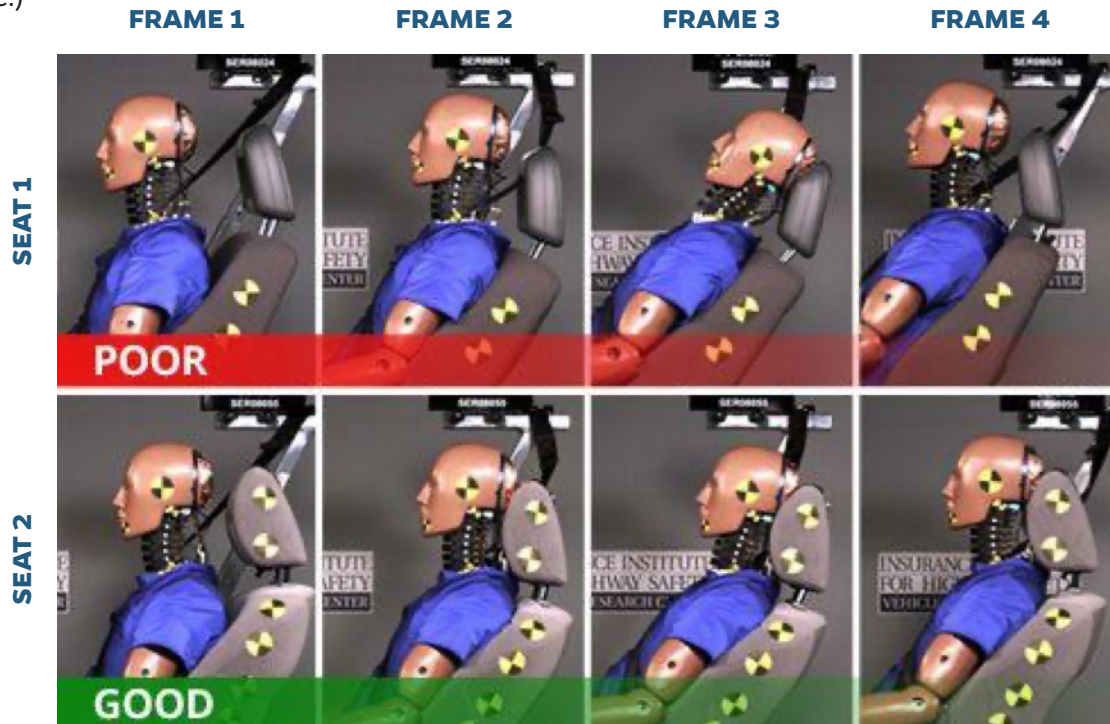

Figure 5 - Rear-End Crash Test Slow-Motion Video Images
8. Figure 5 below contains a series of photographs from slow-motion videos of rear-end crash tests of vehicle seats/head restraints from two different vehicles: one with a “Poor” rating and one with a “Good” rating. Compare the four picture frame sequences for the tests of Seat 1 and Seat 2 to answer the analysis questions. (HINT: Look closely at the positions of the crash dummy’s head compared to the head restraint during each frame of the sequence.)
For each frame, describe how the positions of the head, neck, and headrest differ for Seat 1 and Seat 2 in Figure 5.